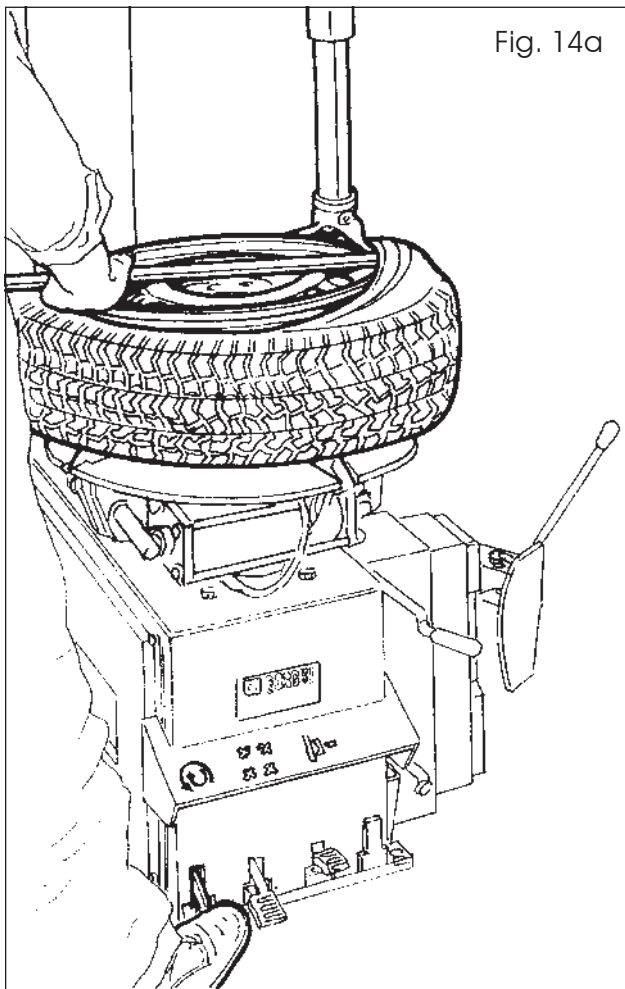

Fig. 14a
- ❑ Lift the upper tire bead over the knob portion of the mount/demount head (Fig.14a)